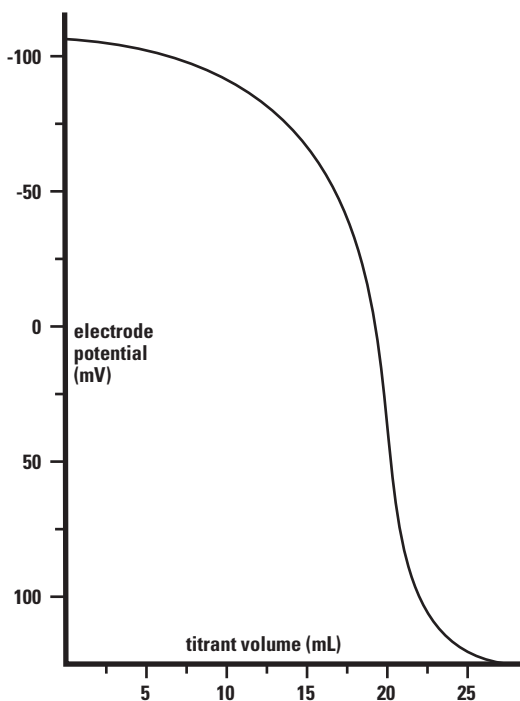

Figure 3 Titration of 0.114 M F^- with 0.1 M $La(NO_3)_3$
3. Using a 10.0 mL burette, add increments of lanthanum nitrate and plot the electrode potential against mL of lanthanum nitrate added. The endpoint is the point of the greatest slope. See **Figure 3**. Record the endpoint, V_o . Rinse the electrode and blot dry.